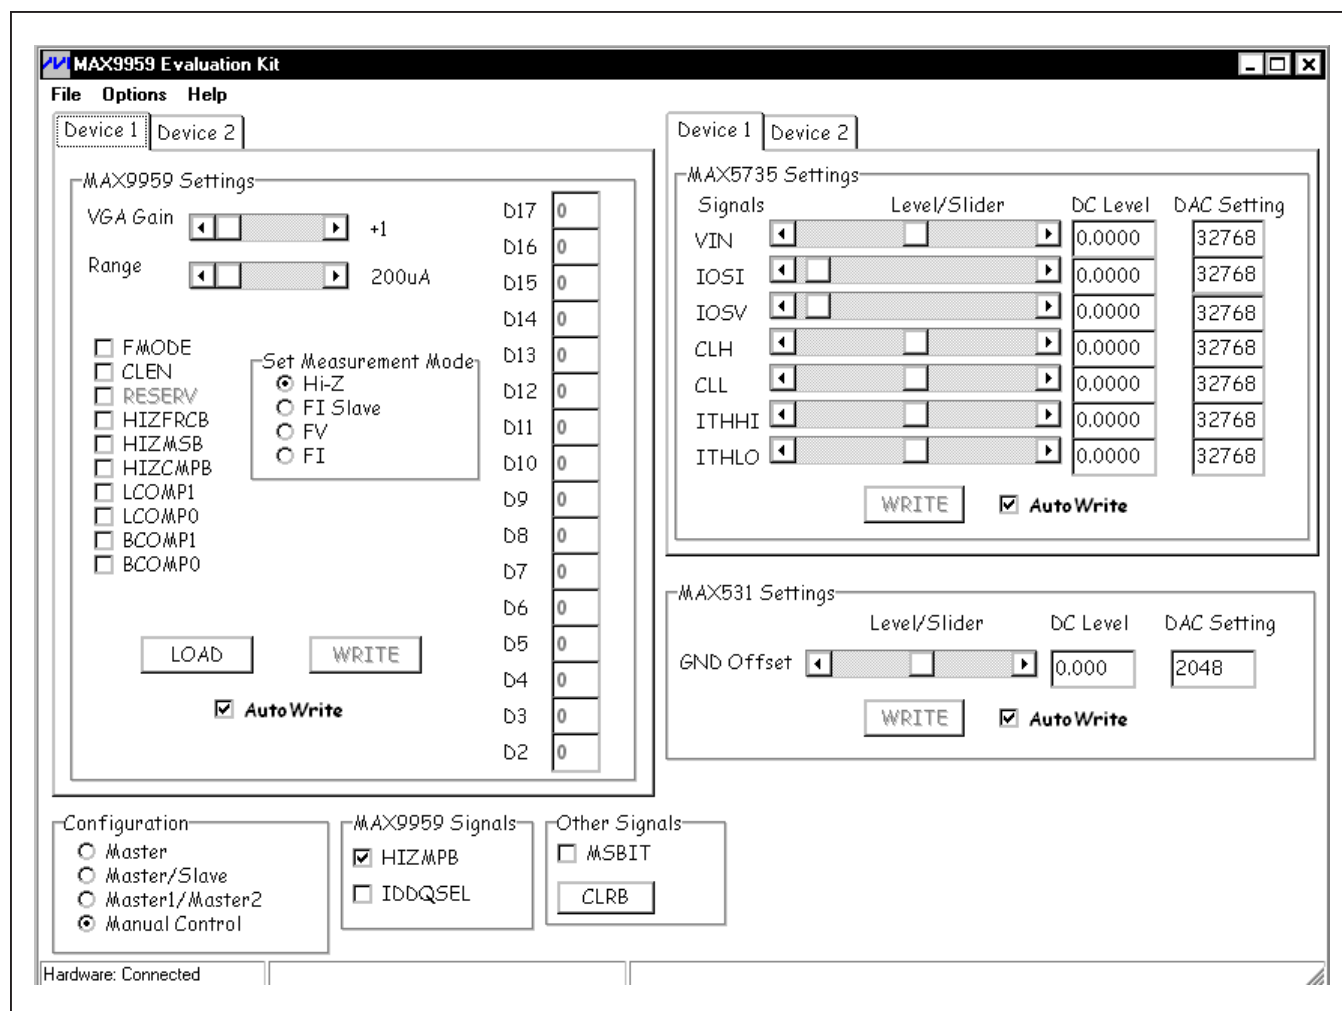

Figure 1. MAX9959 EV Kit Software Main Window at Startup
- 7) Start the MAX9959 EV kit software by opening its icon in the **Start | Programs** menu. The EV kit software main window appears, as shown in Figure 1.
The main window of the evaluation kit software is shown in Figure 1.